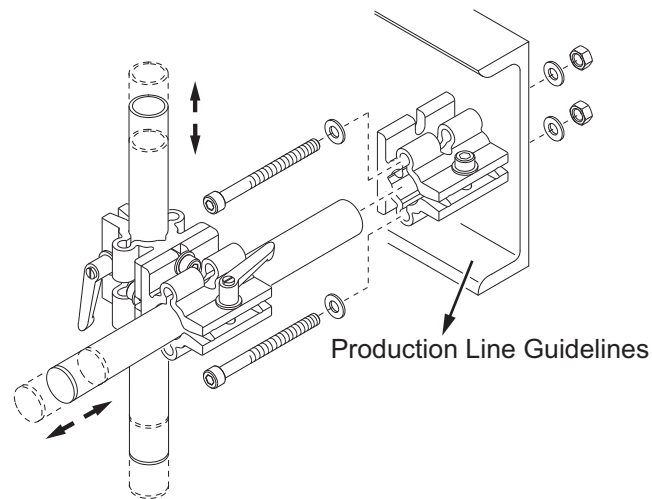

Figure 3-6: Unicorn II Production Line Guidelines
- 5 Attach the vertical stainless steel tube to the combined aluminium clamp (refer to Figure 3-6).